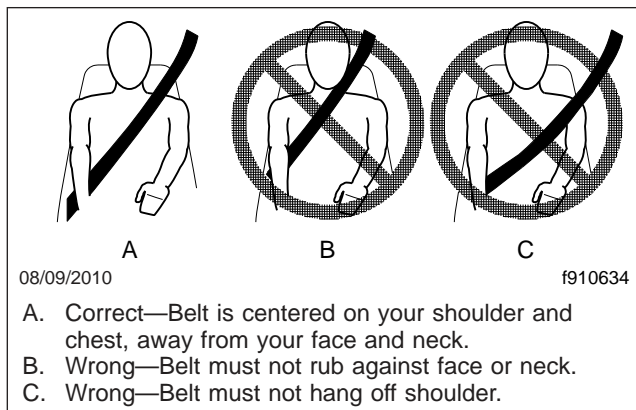

Fig. 7.10, Proper Shoulder Strap Fit
5. Position the shoulder strap diagonally across your chest with the adjustable D-loop bracket (if equipped). The shoulder strap must be centered on your shoulder and chest, away from your face and neck. See Fig. 7.10. If desired, engage the Komfort Latch or Sliding Komfort Latch as follows.